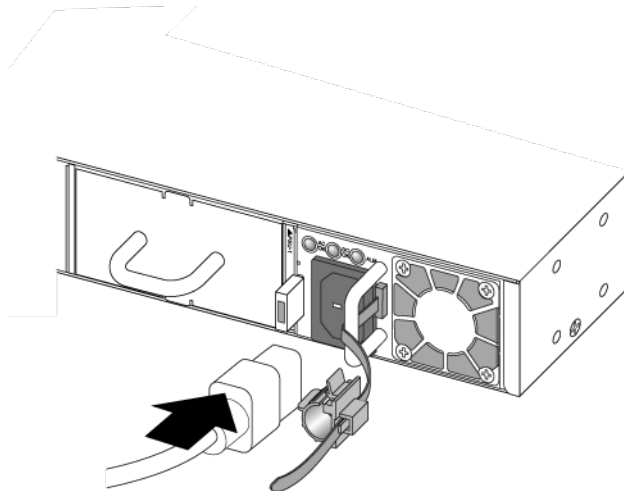

Figure 166: Connecting the Power Cord
- b Connect the AC power cord to the input connector (see Figure 166).